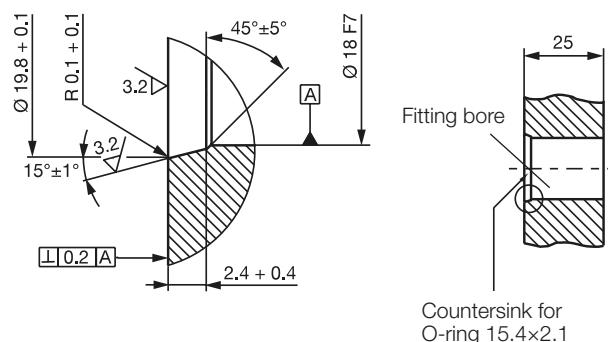

Fig. 4-3: Fitting bore for installing the BTL with O-ring
**Fitting bore:** The mounting surface of the BTL housing must make full contact with the supporting surface. A suitable O-ring must completely seal the bore, i.e. the countersink for the O-ring must be produced in accordance with Fig. 4-3.